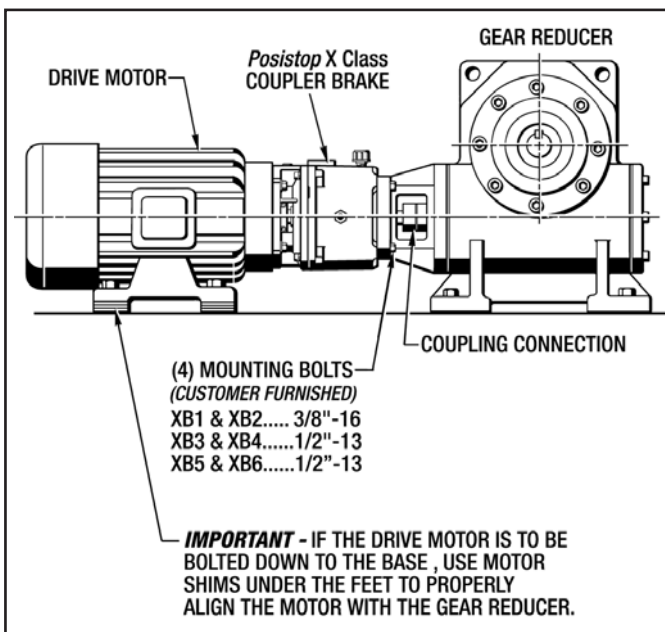

Figure 3.2 - Drive Motor & Gear Reducer Alignment
(See Figure 3.2)
3. If the Drive Motor is to be bolted down to the base, use motor shims under the feet to correctly align the motor with the gear reducer as shown in *Figure 3.2*. **This is very important so the Coupler Brake will not be pulled down or pushed up during operation.**